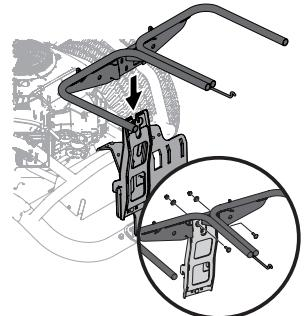

Figure 8
- Install and secure the hanger assembly (683-04461C) onto the vertical support using two carriage bolts (710-0276), two cup washers (736-0242) and two flange lock nuts (712-04063) from hardware pack 689-01419. See Figure 8.